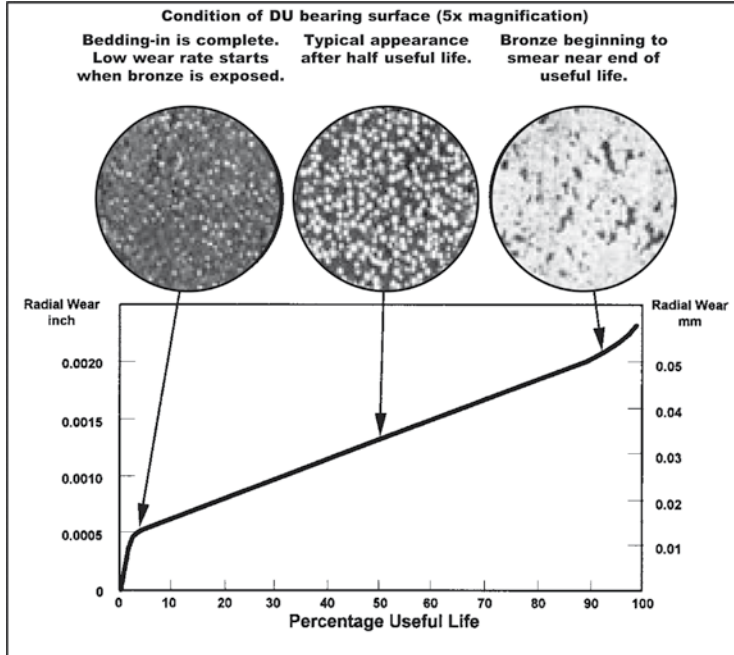

Fig.: 2 Residual Life Guide
4.5.2 The Metal backed bronze-ptfe bearings may be inspected and assessed for replacement, referring to guide (see Fig.: 2) on the useful residual life. To replace the bearings, the unit or the subassembly